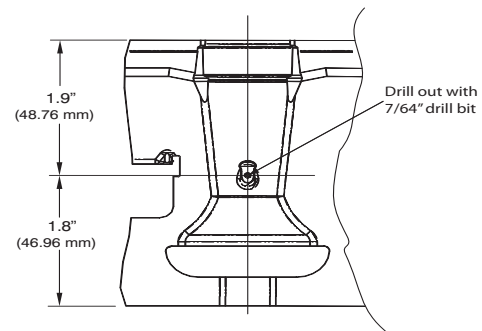

Fig. 6 – Mixer Screw Location
3. If you cannot locate the dimple, refer to Fig. 6 for location of the mixer screw.